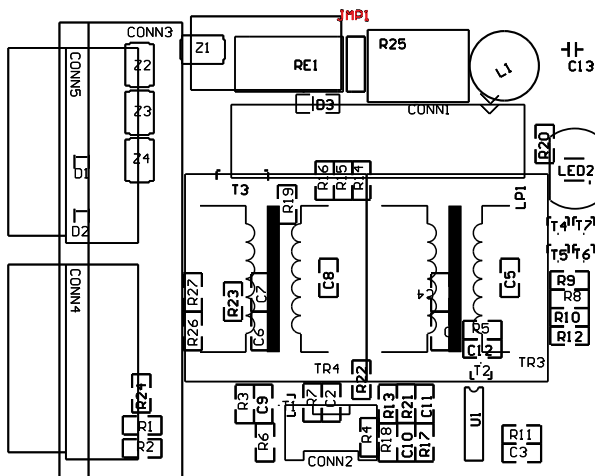

fig.16 - Input board PCB960 with location of jumper JMP1
Impedance switching is supported for input boards PCB960 (see fig 16) and PCB124 (see fig 17). Configuration details of the impedance switching are depending on the input board type as described hereafter.
- Low impedance if the device status is OK, High impedance if the device has a failure or is not powered. This is the factory default configuration, the jumper is placed on the contact pins of JMP1 that are closest to CONN1 (furthest away from the edge of the board, see fig 16).